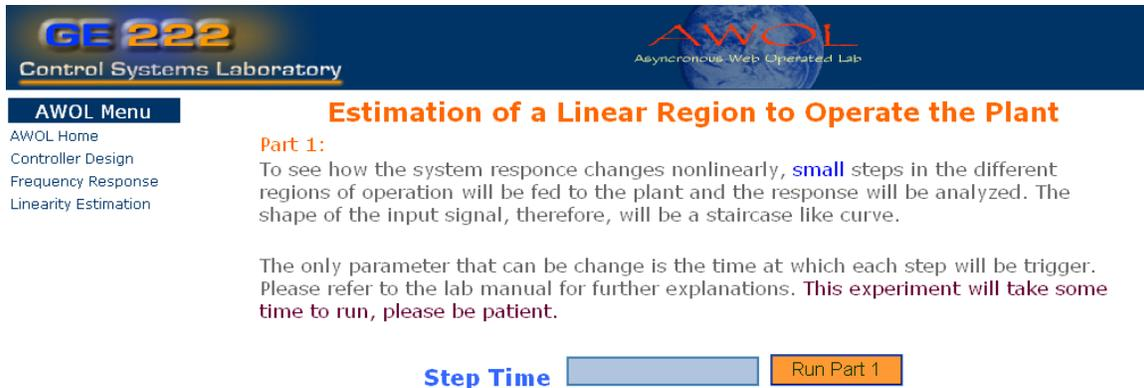

Figure 2: Linearity Estimation Webpage
6. A sample webpage is shown in Figure 2.